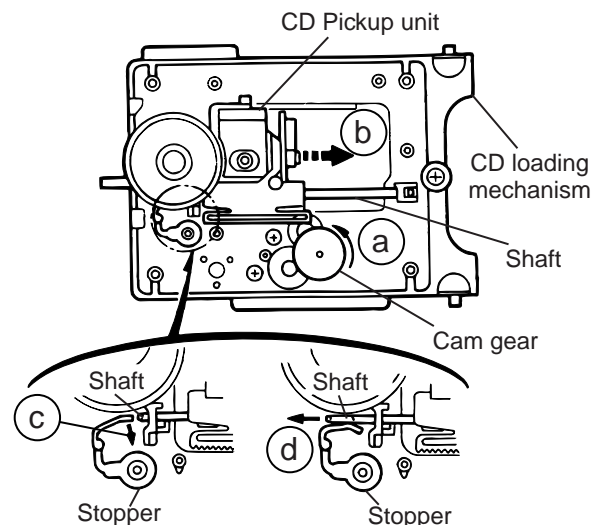

Fig.13
**■ Removing the CD pick unit (See Fig.13 )**